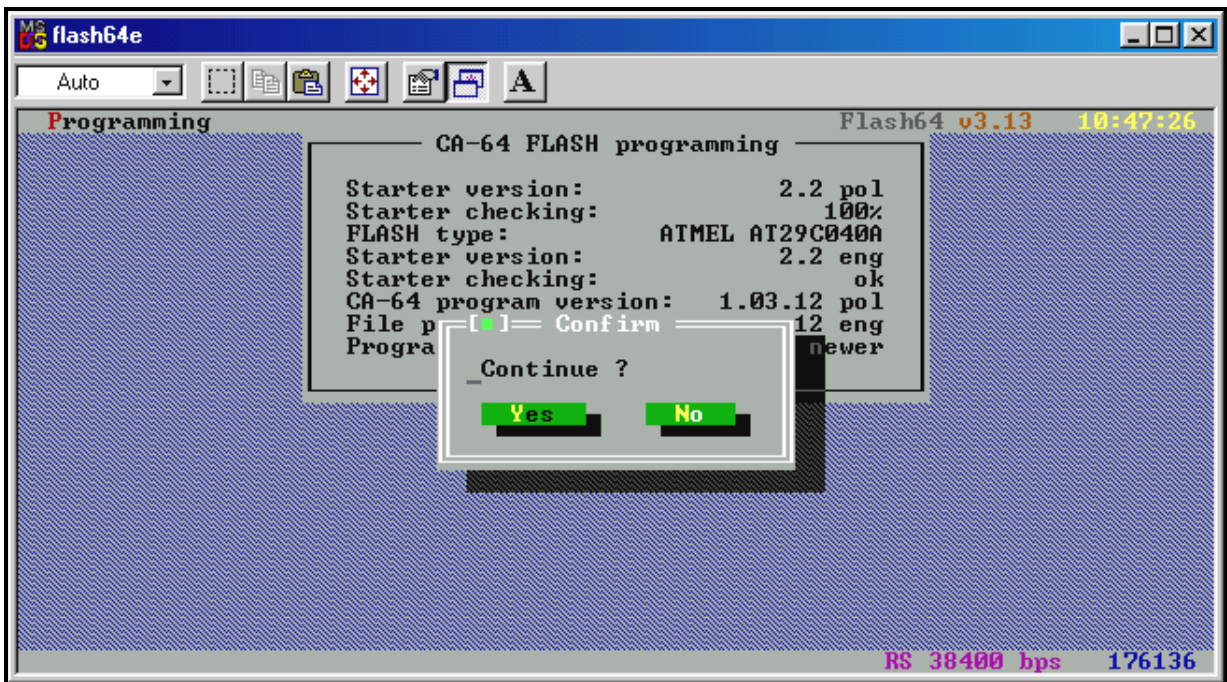

Fig. 8
- After STARTER replacement, the program will go on to replacing the essential software of the control panel – it will read the software version from the panel and compare it with the version of program contained in the indicated file. Confirm the message with YES button (Fig. 8) to initiate the procedure of deleting, programming and verification of the FLASH memory contents.